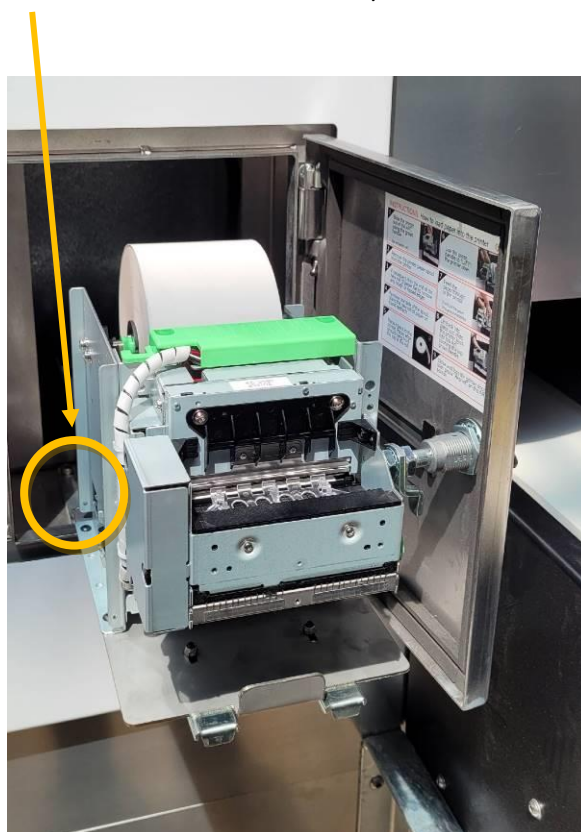

Figure 74. Printer
- Turning the printer “off” at the switch on the rear/left hand side of the printer as shown in Figure 74
- Turn the printer "off" at the switch on the rear/left hand side of the printer as shown in Figure 74
- Turn the printer “off” at the switch on the rear/left hand side of the printer as seen in Figure 74